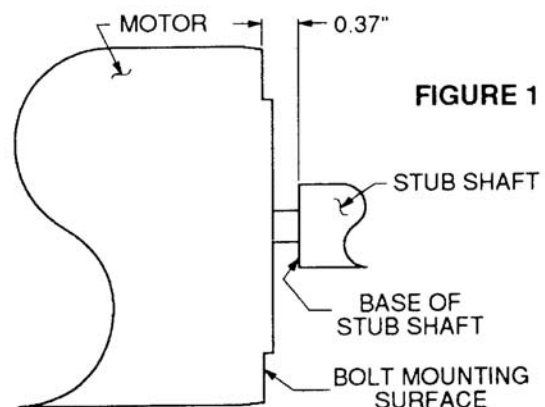

FIGURE 1
1. Liberally apply Loctite RC/680 retaining compound to the motor shaft and slide the stub shaft on, positioning the base of the stub shaft 0.37" from the bolt mounting surface of the motor. For clarification refer to Figure 1 below. Apply Loctite to the four set screws and torque to 85 - 90 in. lbs. Wipe off excess Loctite.